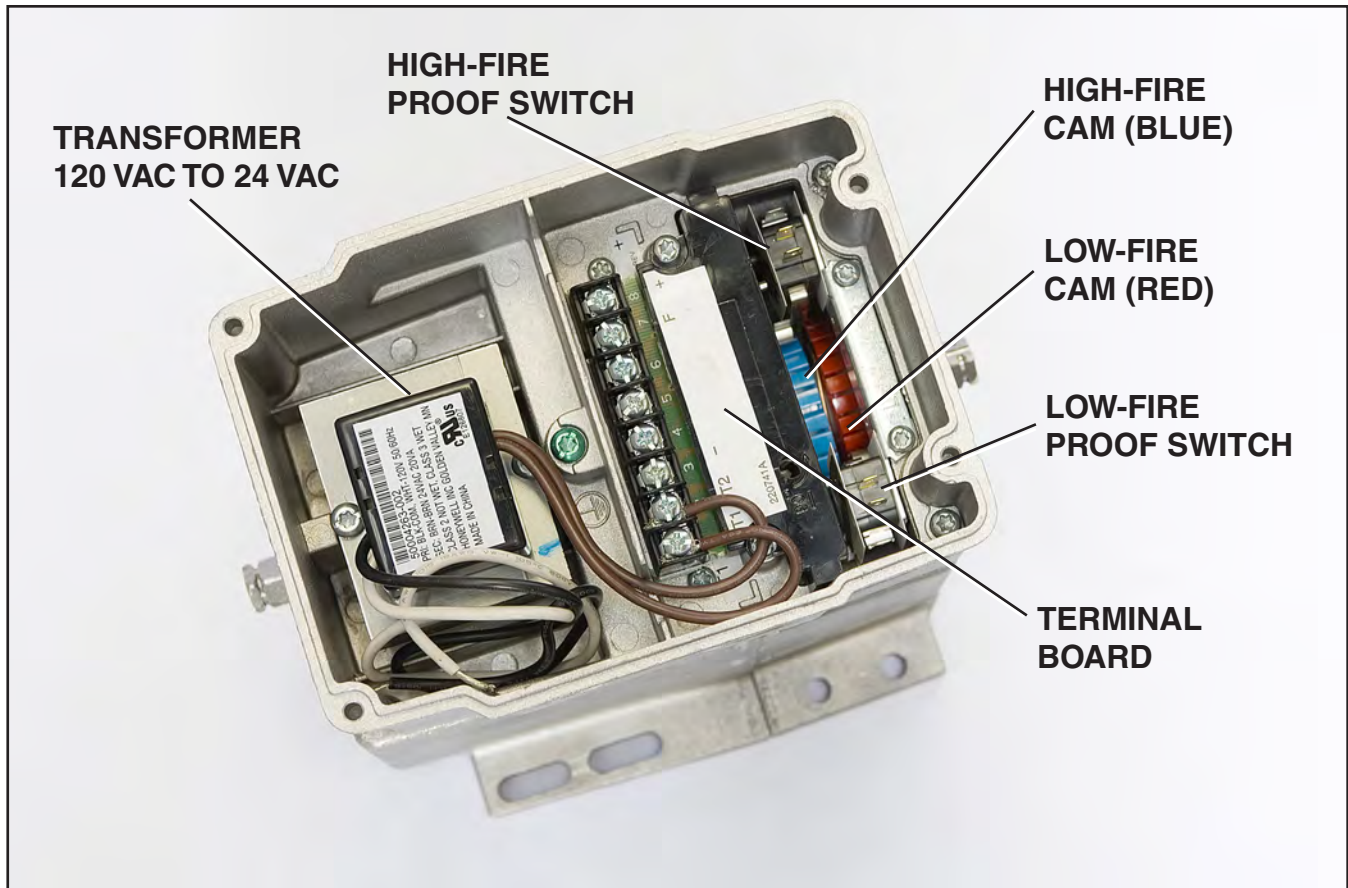

Figure 2. Top view of mod motor.
Key components of concern (Fig. 2)
- Slippage of cams (**Fig. 2**).
- Failure of transformer (**Fig. 2**).
1. Remove the top cover so that you can gain access to the tops of the cams (**Fig. 2**).
Checking terminal board and motor (Fig. 2)